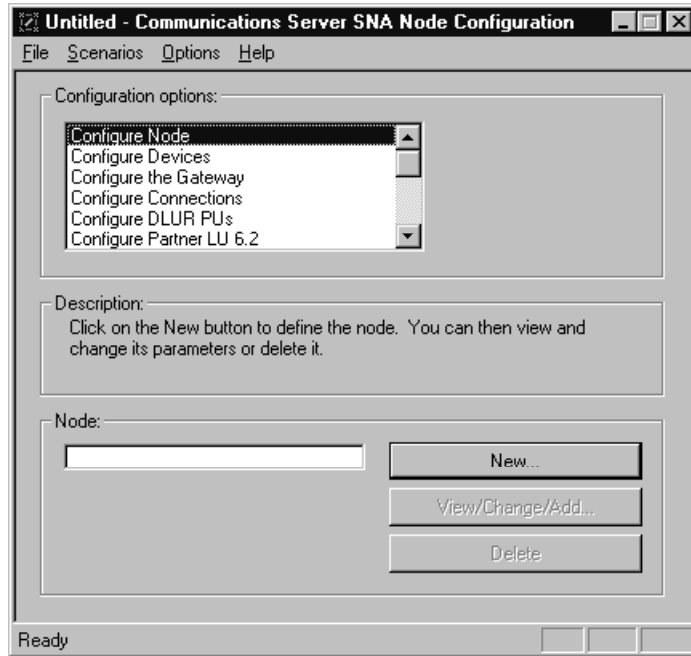

Figure 66. Communications Server SNA Node configuration window
- 4 From the Configuration options list box select **Configure Node** and then **New**, as shown in Figure 66. The Define the Node window appears.
- 1 From the Configuration options list box shown in Figure 66 on page 146 select **Configure Devices**.
- 1 From the Configuration options list box shown in Figure 66 on page 146 select **Configure Connections**.
- 1 From the Configuration options list box shown in Figure 66 on page 146 select **Configure Partner LU 6.2** and then **New**.
- 1 From the Configuration options list box shown in Figure 66 on page 146 select **Configure Mode** and then **New**.